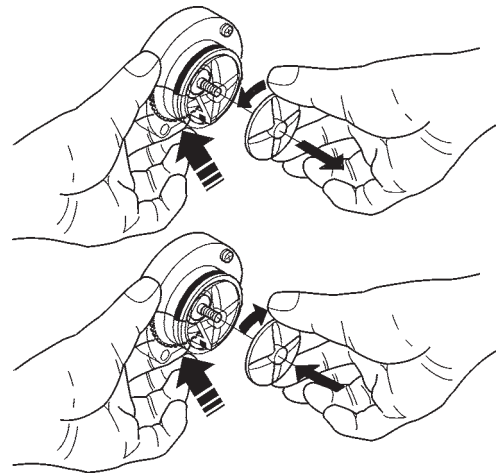

Fig. 26
- in order to remove the impellers, block the disk fitted on the mixer shaft with a finger (see Fig. 26).